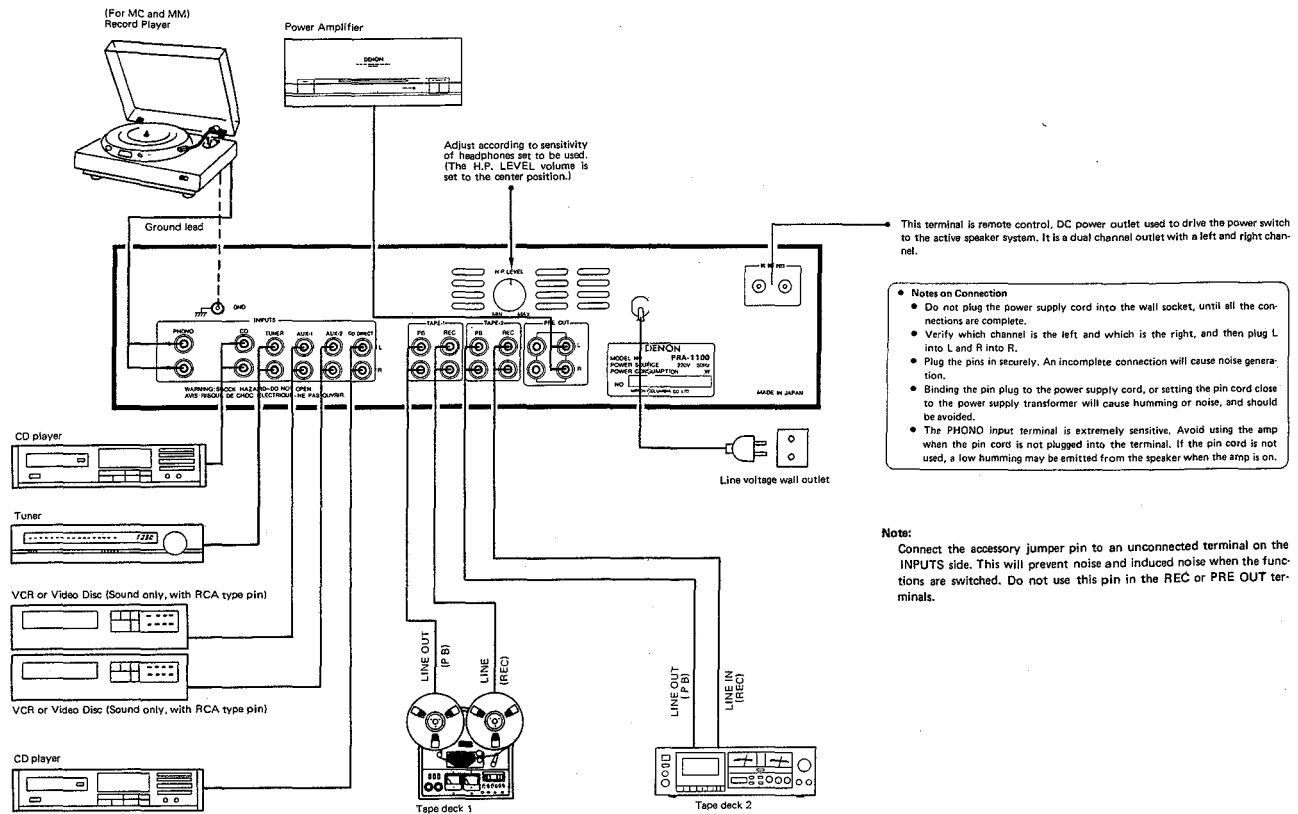

Fig. 3
3. Remove the top cover and connect a DC digital voltmeter to the test points of ETC9072 (VOLUME unit) (between the positive terminal TP and the negative terminal (chassis ground), and between the positive TP and the negative terminal (chassis ground). (Refer to Fig. 3—6)